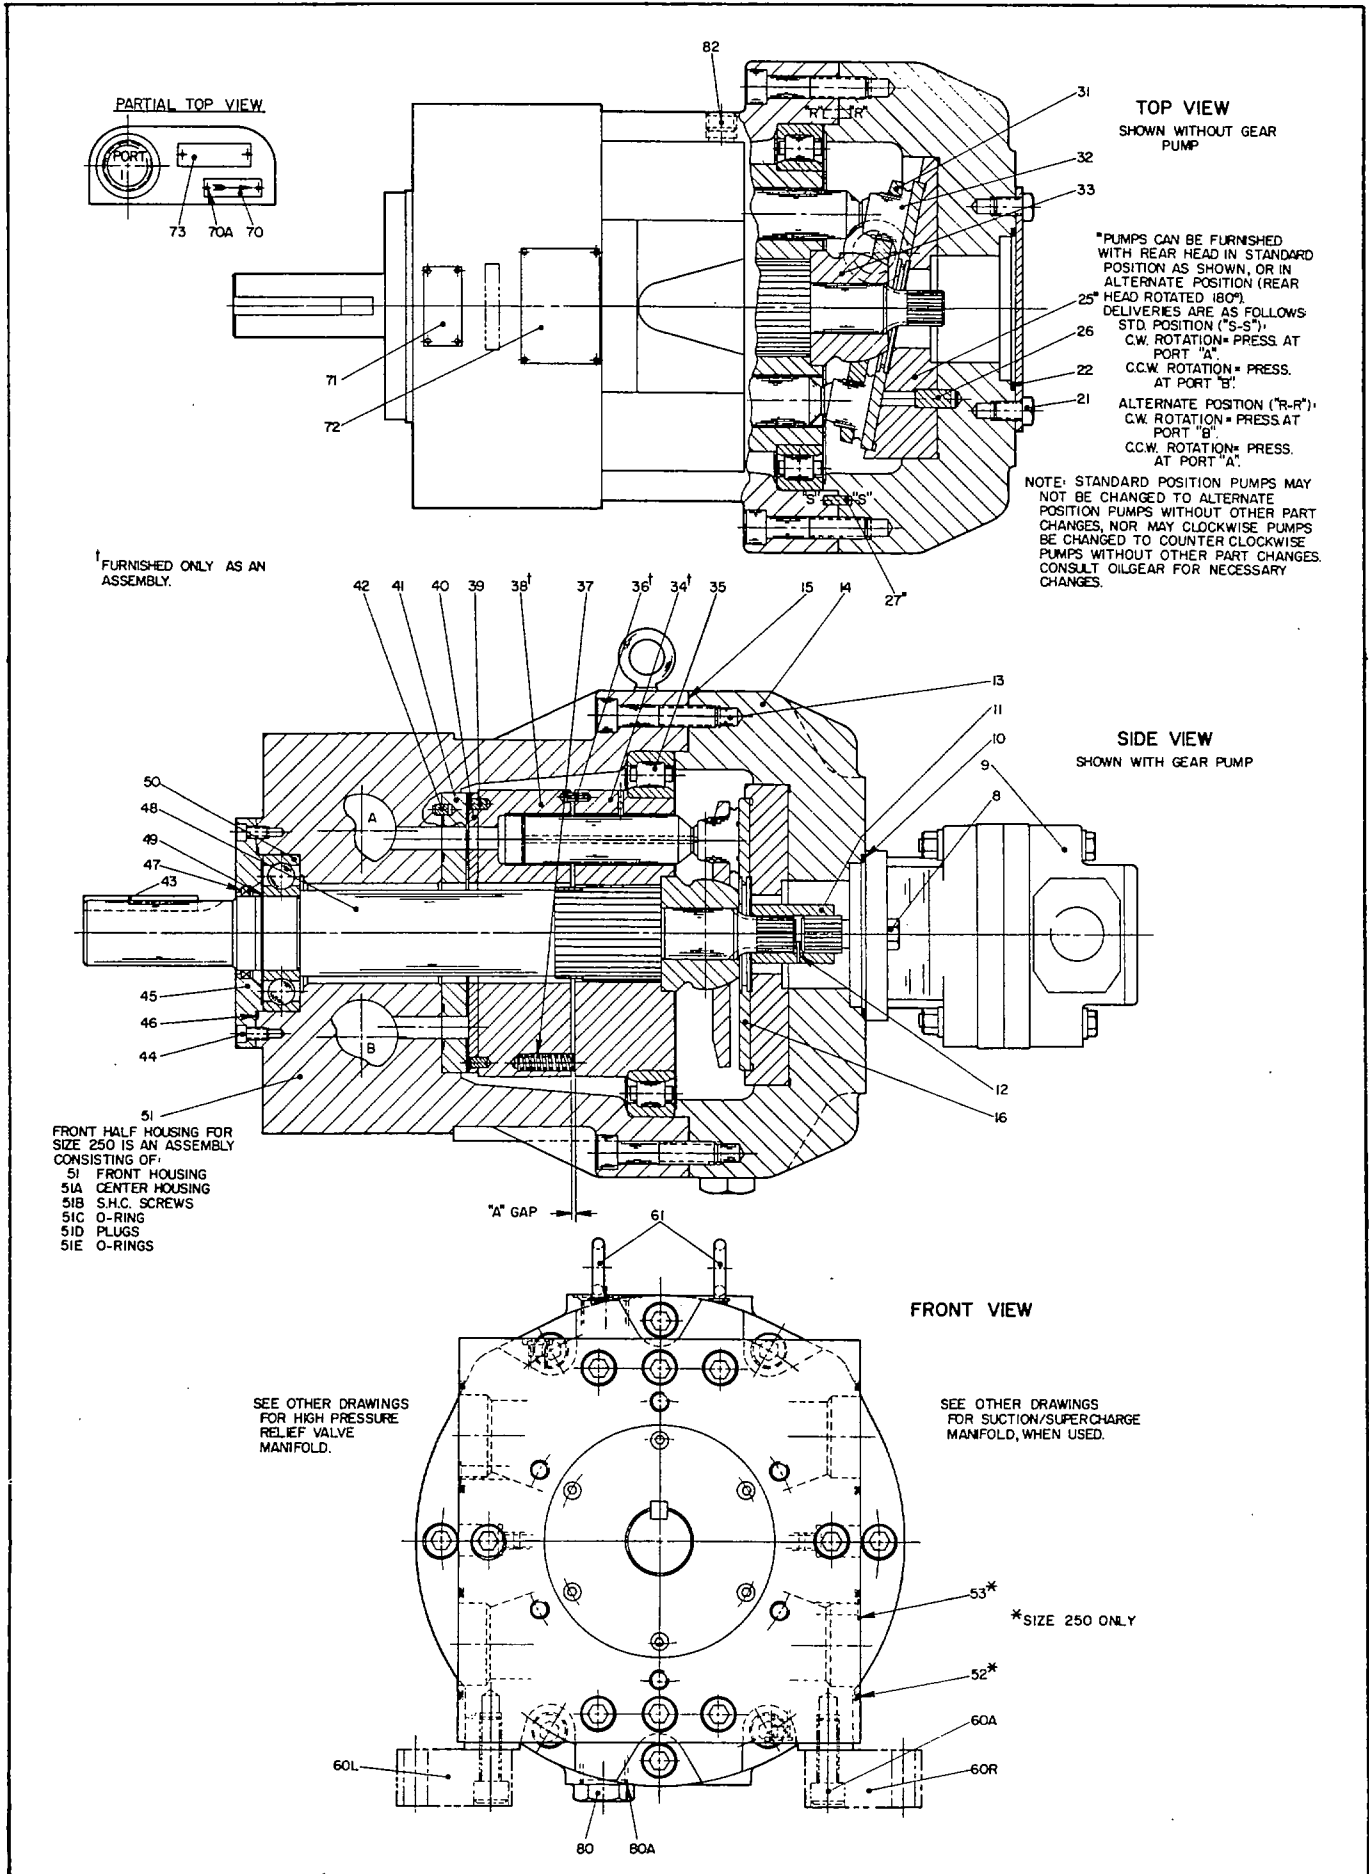

Figure 4. Parts Drawing, "PFL" Pumps. DS-946077-B (509876-B)
A. PILOT PUMP (Refer to fig. 4)
B. REAR HOUSING (Refer to fig. 4)
Place sling around rear housing (14), or use eyebolts. Remove screws (13). Partially pull rear housing straight back from front housing, being careful not to tilt or tip it. Note position of pin (27) in relation to rear head position (either "S-S" for standard position or "R-R" for alternate position, see figure 4). Separate piston harness plate (31) and piston assemblies (32) from cam wear plate (16) so they remain with the cylinder assembly. Withdraw rear housing completely and remove housing gasket (15). With large counterbore facing up, remove cam wear plate (16). Remove screws (21), rear case cover (22) and O'ring (10) – or see previous paragraph for pilot pump removal. Before removing cam plate (25), be sure to take note of whether the narrow width of the plate is on the right or left side of the pump. It must be returned to the same position when reassembling. Remove cam plate (25). Do not remove dowel pins (26) or (27) from front housing unless damaged.
C. PISTON PUMP AND PORT PLATE (Refer to fig. 4)
F. DRIVESHAFT AND SEAL (Refer to fig. 4)